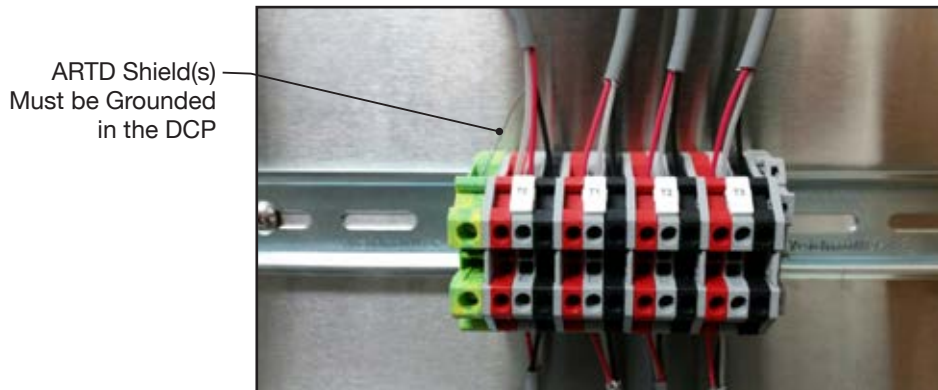
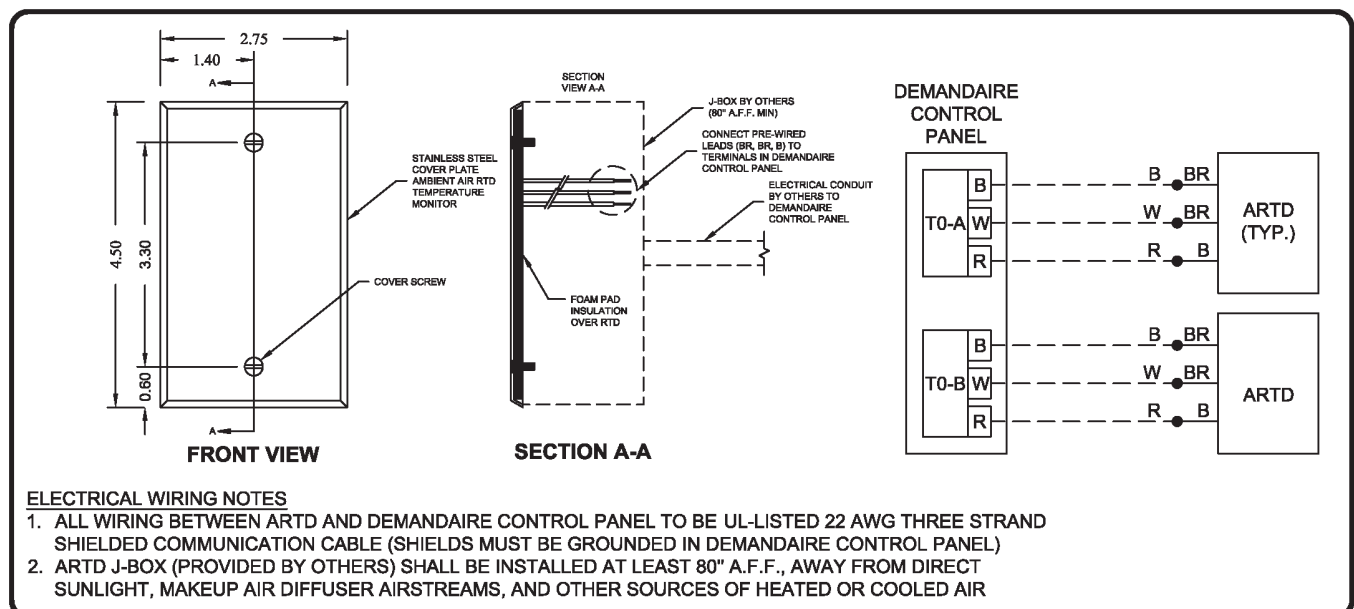

Figure 9: ARTD Wiring Connections in DCP
FIGURE 10: ARTD Installation Details
- The ARTD requires a 2x4 J-Box to which it may be directly mounted (*Figure 10*).
- Connect the terminal blocks labeled *T0-A*, *T0-B*, etc., in the control panel to the ARTD using UL-Listed 22 AWG Three Strand Shielded Communication Cable (*Figure 9*). Connect the black lead on the monitor to the red wire leading to the DemandAire control panel. Connect one of the brown leads on the monitor to the black wire leading to the control panel and connect the other brown lead on the monitor to the white wire leading to the control panel (*Figure 10*).